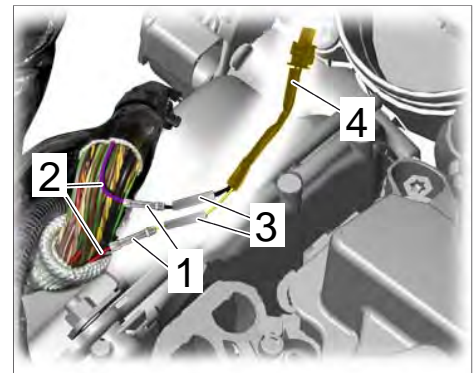

Figure 4
- 3.6 Crimp insulated cable connection ⇒ *Figure 4 -item 1-* using the **crimping pliers** from the **Nr.155-1 Pos.1 - cable repair kit** to the main wire harness wires ⇒ *Figure 4 -item 2-*.
- 3.7 Slide the sleeve ⇒ *Figure 4 -item 4-* you removed from the old wire harness onto the wires of the new connector.
- 3.8 Slide shrink-fit hoses ⇒ *Figure 4 -item 3-* onto the connector wires.
- 3.9 Crimp connector wires to the insulated cable connections ⇒ *Figure 4 -item 1-* using **crimping pliers**. Check the crimp connection carefully.
- 3.10 Slide shrink-fit hoses ⇒ *Figure 4 -item 3-* over the crimp connection and carefully shrink them using the **hot-air blower and attached reflector**.